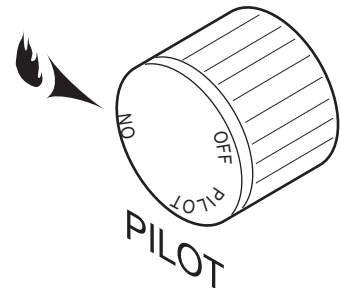

Figure 48 - On Position
Depress and turn the knob counterclockwise  to the “ON” position. *Figure 48*. It will take less than four (4) seconds for the burner to ignite.